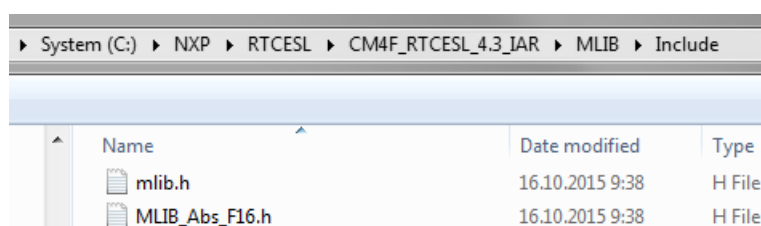

Figure 1-39. Add Files dialog
5. Navigate into the library installation folder C:\NXP\RTCESL\CM4F_RTCESL_4.6_IAR\MLIB\Include, and select the *mllib_FP.h* file. (If the file does not appear, set the file-type filter to Source Files.) Click Open. See Figure 1-39.